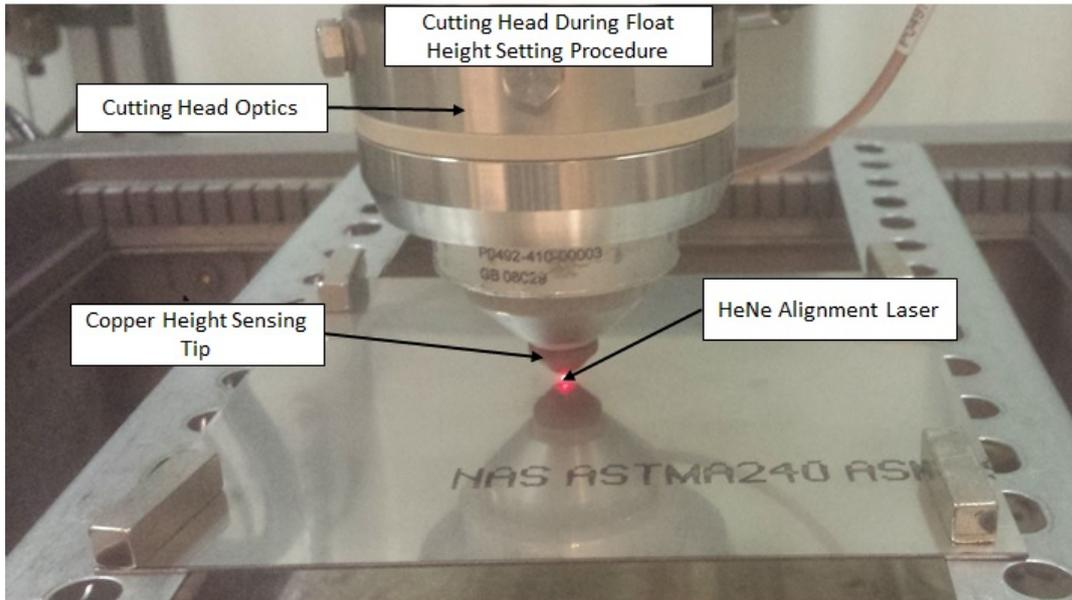

Figure 26: Initial step of cutting head height setting process.
5. (Figures 26, 27) Lower the cutting head (Z-axis) so that the height sensing tip is between **0.3 and 0.45[mm]** above the material surface.